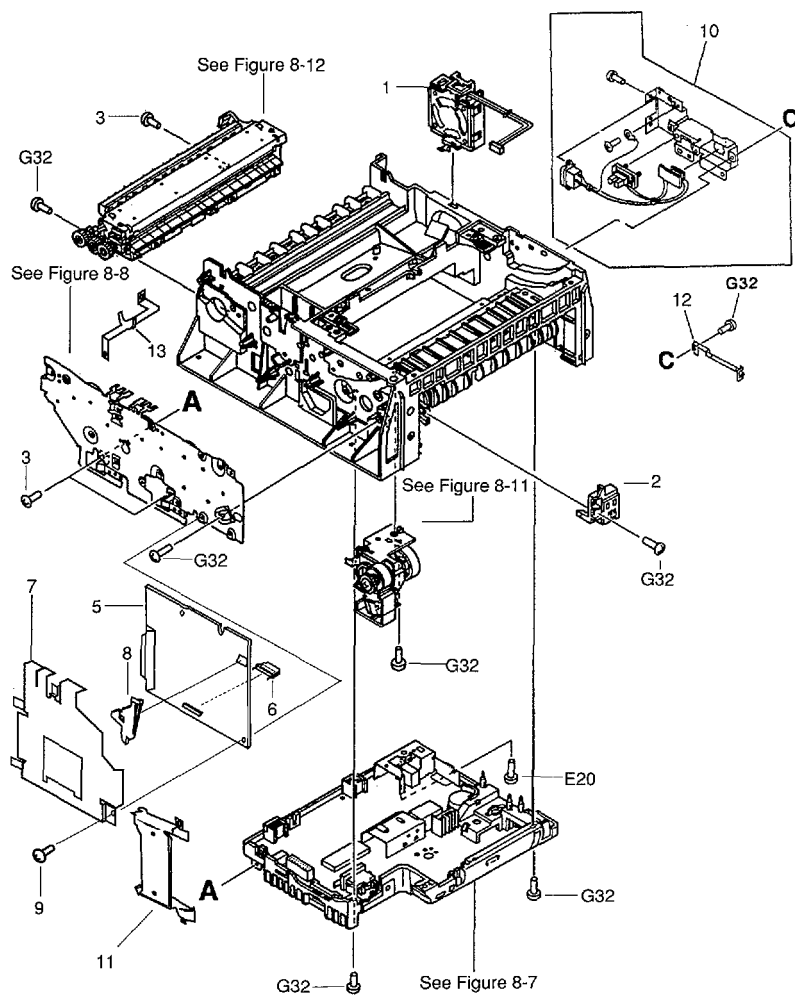

Figure 8-4 Internal Components 1
*Part shown in Figure 8-4 is for other printer model; actual part looks different.